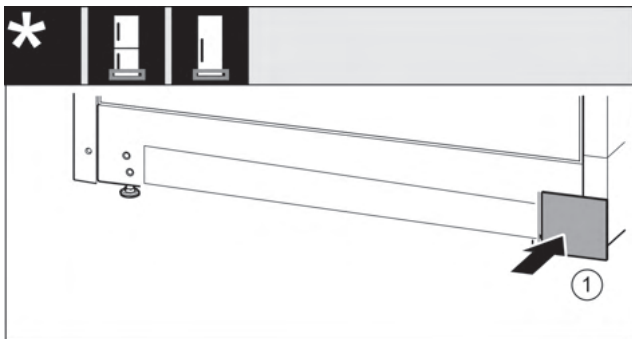

Fig. 36
- ▶ Re-attach the cover Fig. 36 (1) on the other side.